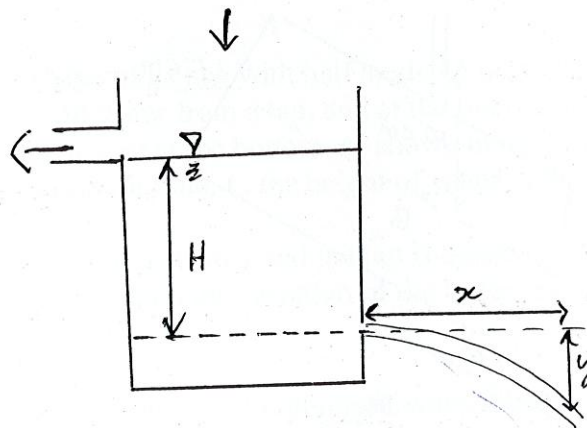

Figure 6
6) The flow through a circular orifice is studied using a constant-head tank as shown in Figure 6. The position of the jet is measured as shown in the figure. The discharge through the orifice is measured by recording the volume of water collected from the jet in a given time. The diameter of the orifice is 5 mm.